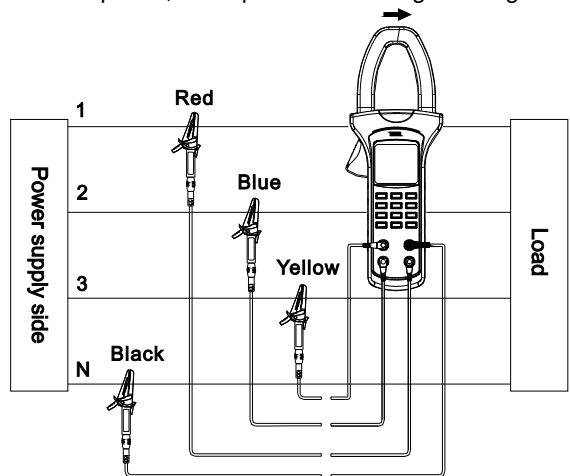

Figure 14
- As shown in Figure 14, press MENU to select gear of “voltage (V)+voltage (V)+voltage (V)”. Insert red testing pen into “V1” jack, blue testing pen into “V2” jack, yellow testing pen into “V3” jack and black testing pen into “COM” jack and connect 4 testing pens to measured power, three-phase load and grounding end.
Measurement steps: Press HARM key to enter into measurement mode of total voltage harmonics to total wave distortion rate firstly after bootstrap and connect voltage signal of measured phase to voltage input end of instrument by probe and connect zero wire to COM end. As shown in Figure 14, connect phase wire to any port of V1/V2/V3 and press SELECT key so that measurement port can be consistent with input port.